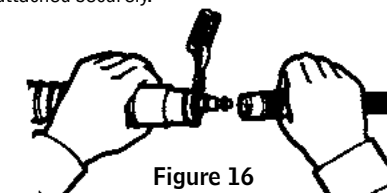

Figure 16
- 2) With air flowing, connect the helmet assembly to the air supply hose (see Figure 16). Pull back the sleeve on the hose coupler and insert the quick-disconnect nipple on the flow control. Once the fitting is secured, release the coupling sleeve to lock the fitting together. Pull on the coupling to make sure they are attached securely.